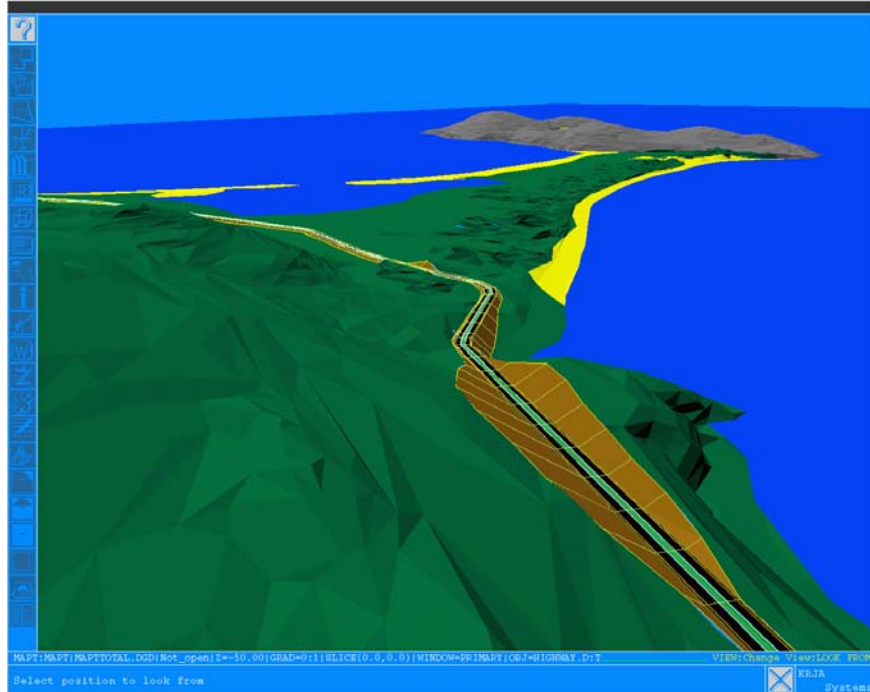

Figure 9: Road design combined with surface triangulation model of surrounding topography.
- View and edit the development interactively from any location (Fig. 9).